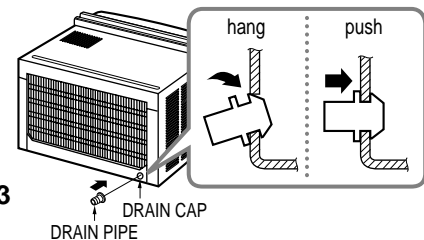

**Figure 32**
- b. Fasten the support bracket (TYPE G) using a removed screw. Attach the support bracket (TYPE G) in the inner window sill with a screw (TYPE B), as shown Fig. 32.